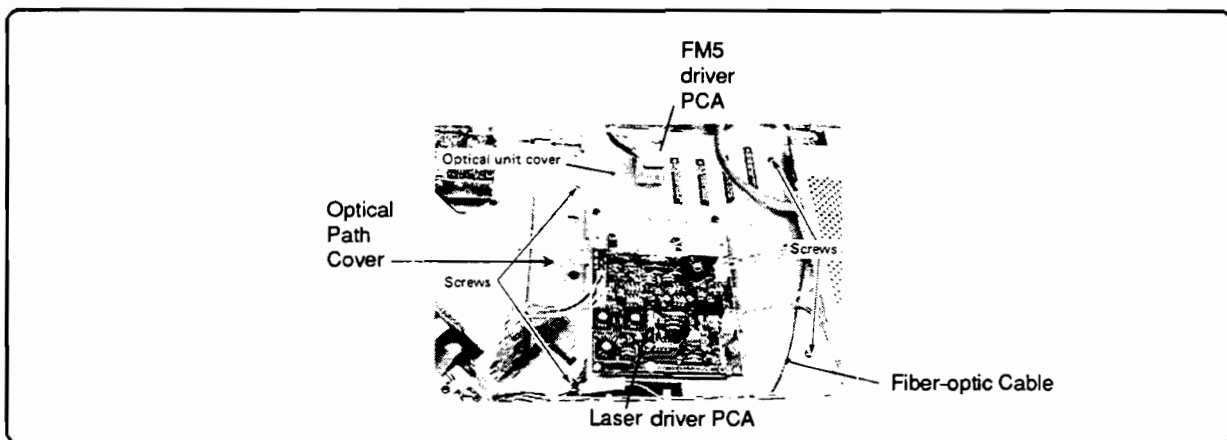

Figure 6-56. Optical Unit Cover
6. From the top of the printer, unplug all connectors from Engine-FM5 Driver PCA (small PCA toward the rear of printer) and the Laser Driver PCA (Figure 6-56). (Neither PCA needs to be removed.)
7. Remove the Optical Path Cover (two screws - Figure 6-56).
8. Remove the four screws securing the Optical Unit Cover (see Figure 6-56). Lift the rear of the cover first, while holding all cables out of the way. **Be careful not to damage the beam detect fiber-optic cable** (Figure 6-56).